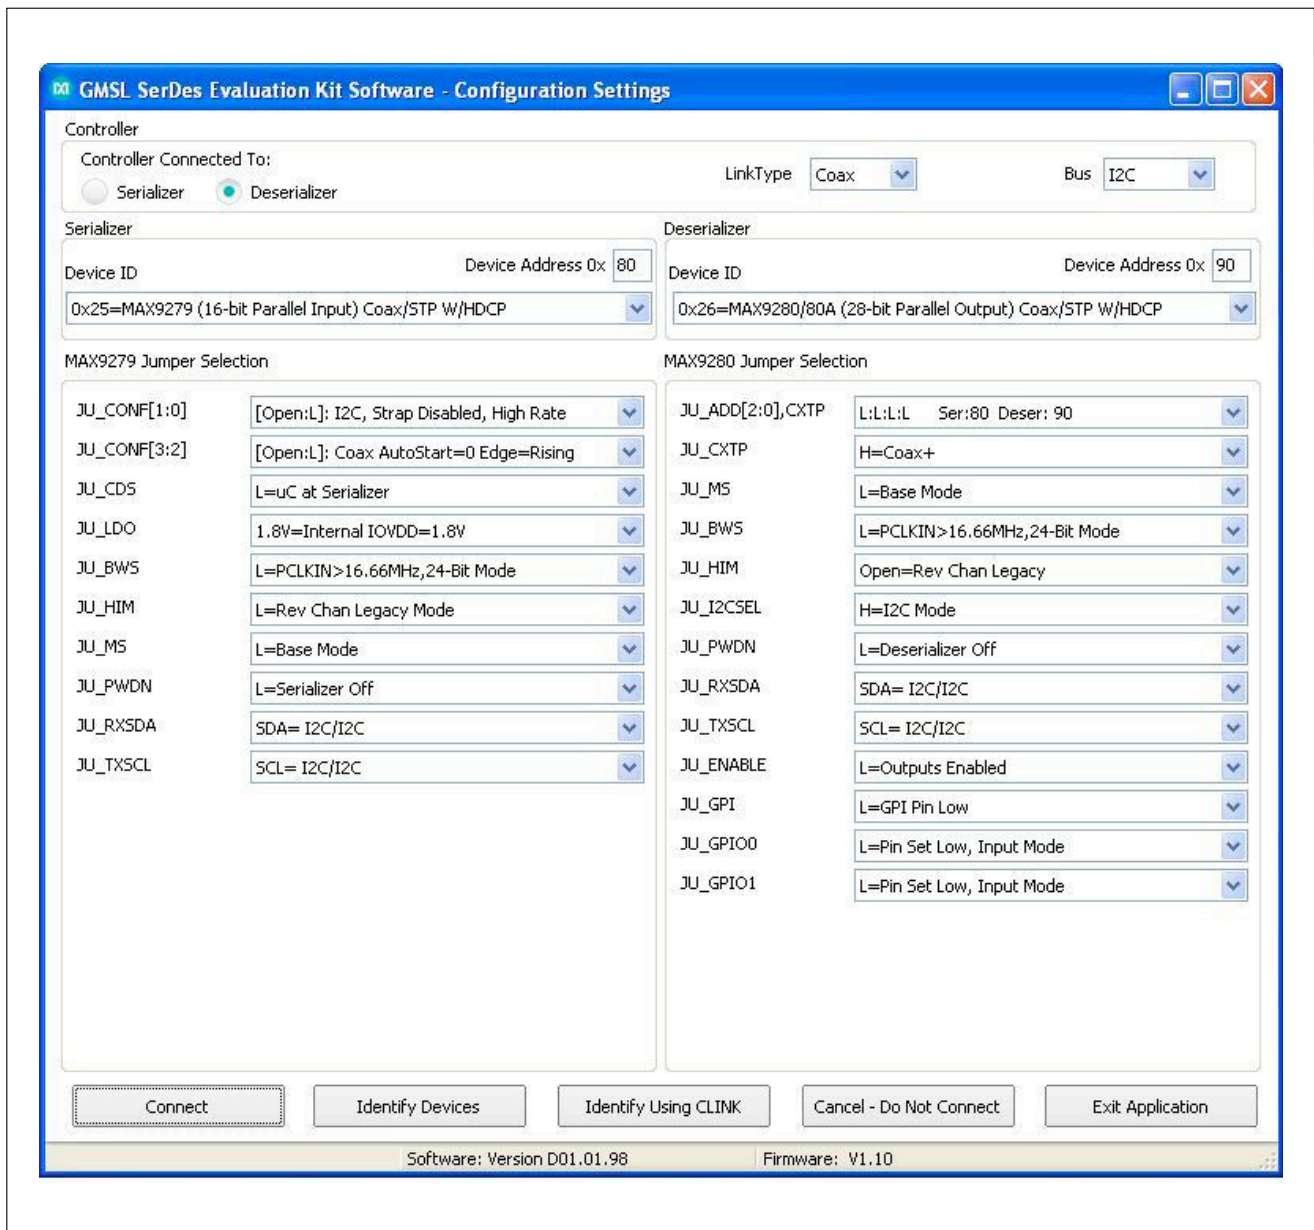
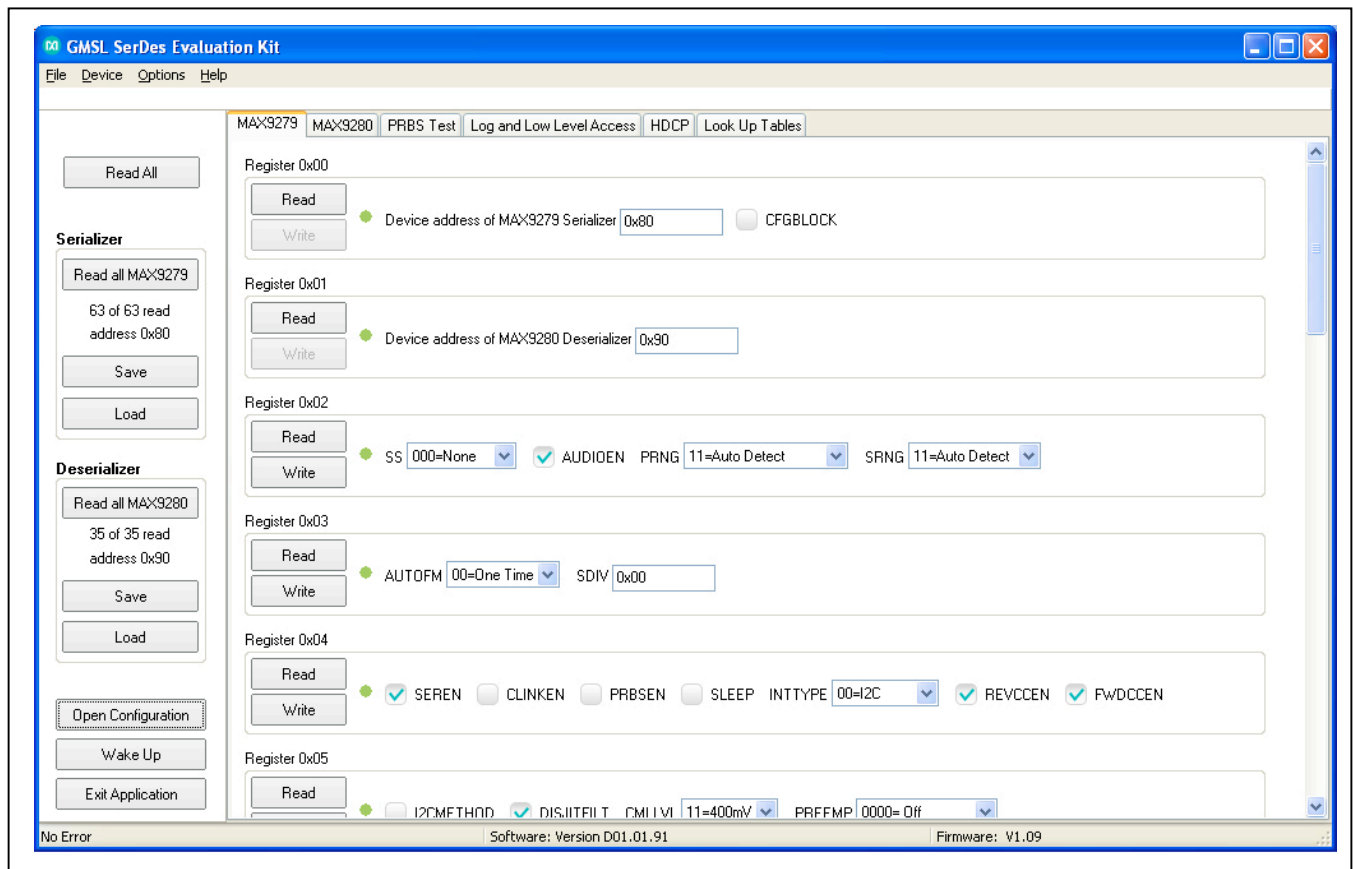

Figure 1. MAXSerDesEV-N EV Kit Software: Configuration Settings Window
Figure 2. MAXSerDesEV-N EV Kit Software: Evaluation Kit Window (MAX9279 Tab)
- 13) The EV kit software **Configuration Settings** window is the first window that opens after successful launch. It helps the user to set up the serializer and deserializer boards properly and specify the mode of operation (Figure 1).
- 17) I2C-to-I2C mode support: To enable I2C-to-I2C mode, change jumpers JU\_CONF1 and JU\_CONF0 (Figure 1), and change jumpers JU\_TXSCL from the TX to SCL position and JU\_RXSDA from the RX to SDA position. Press the **Identify Devices** button to verify proper settings. Alternatively, make the changes and select **I2C** from the **Bus** drop-down list before pressing the **Connect** button to start the **GMSL SerDes Evaluation Kit Window** (Figure 2).
The **Configuration Settings** window (Figure 1) is the first window that opens after program launch. It allows the user to specify evaluation board setup and mode of operation.
The **Evaluation Kit** window (Figure 2) provides access to all internal functions of the DUTs by means of reading and writing registers through different tabs, allowing the user to evaluate various functions of the SerDes.
The **MAX9279** tab (Figure 2) lists the serializer’s registers and bit maps. **Read** and **Write** buttons in each register group box allows read/write access for each bit (or group of bits) that specify a function or condition, as defined in the